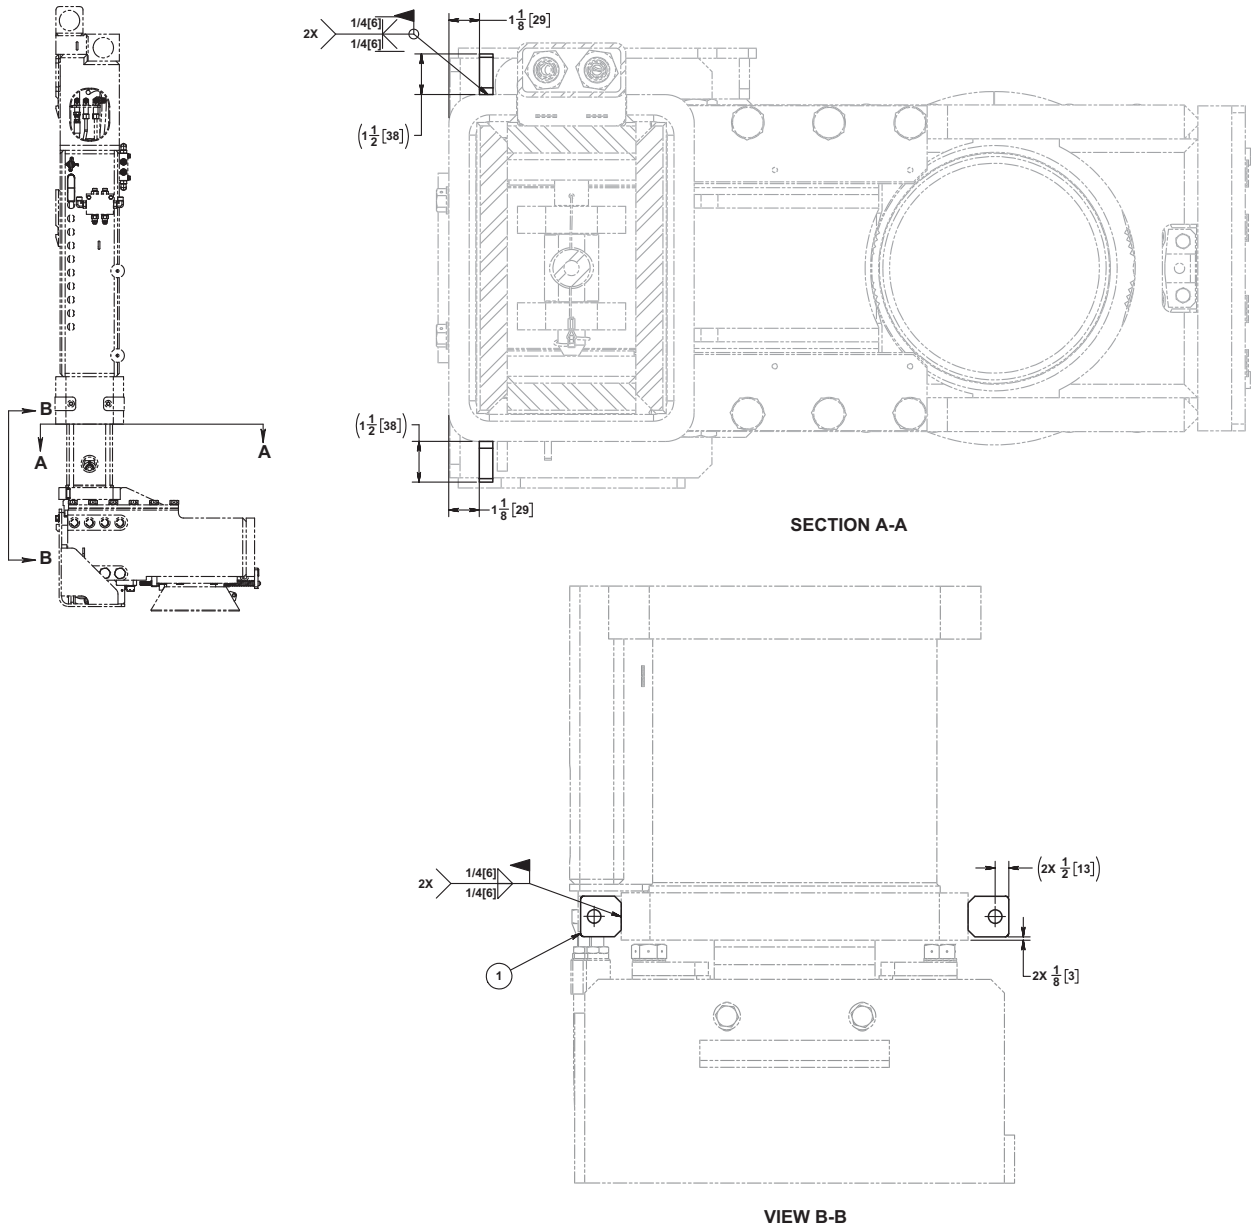

Figure 3: Item 1 (DT26999) Welded plate location
5. Weld the 1/2" plate (item 1) to the inner tube boss as shown in Figure 3.